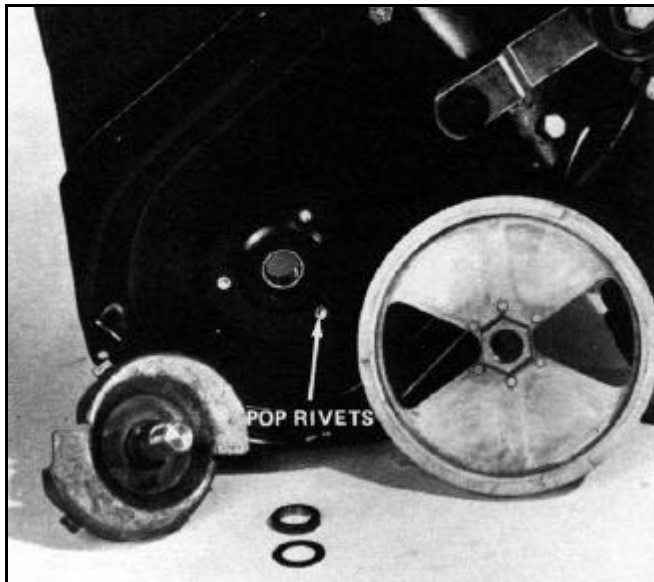

Figure 75
- B. Slide the end cap/shaft assembly from the bearing (Figure 75). If, upon your inspection, noticeable wobble exists between the end cap/shaft assembly and the bearing, both should be replaced.
- C. To remove the bearing from the L. H. side plate, drill out three pop rivets retaining the bearing in the bearing retainer or flange (Figure 75). Replace the bearing and the bearing retainer. Use pop rivets (Toro P.N. 3292-7) to reassemble.